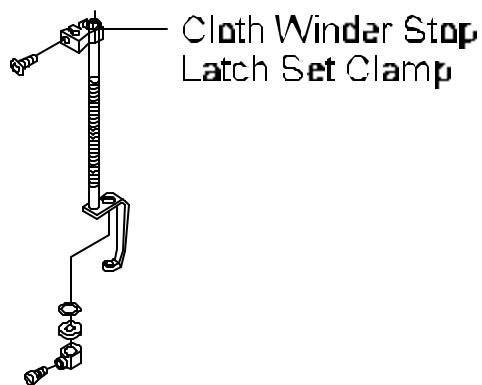

Figure 4
12. With 2.5 mm Allen Wrench **loosen** Cloth Winder Stop Latch Set Clamp. See Figure 4.